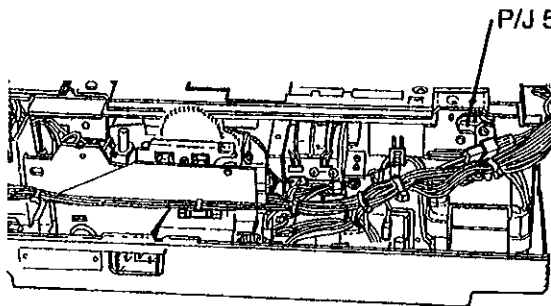

Figure 1. Measuring the lamp voltage
- 4 (Figure 1) Connect the meter between P/J5-1 and P/J5-3.